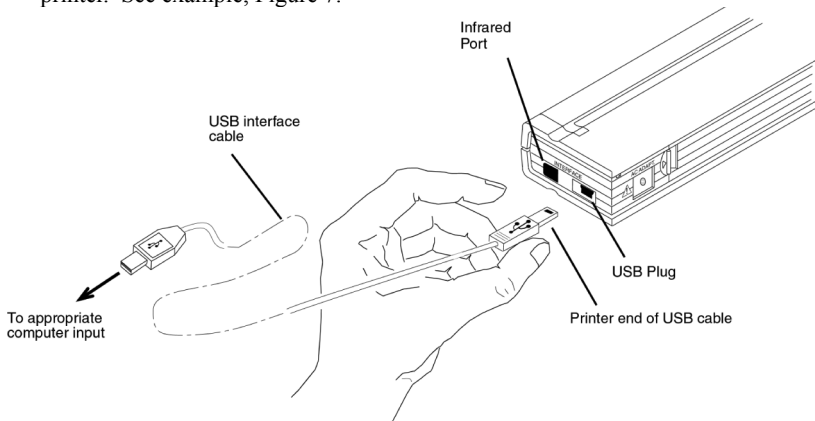

Figure 7. Connecting the PocketJet to your computer
3. Insert the printer end of the cable into the interface connector on the side of the printer. See example, Figure 7.